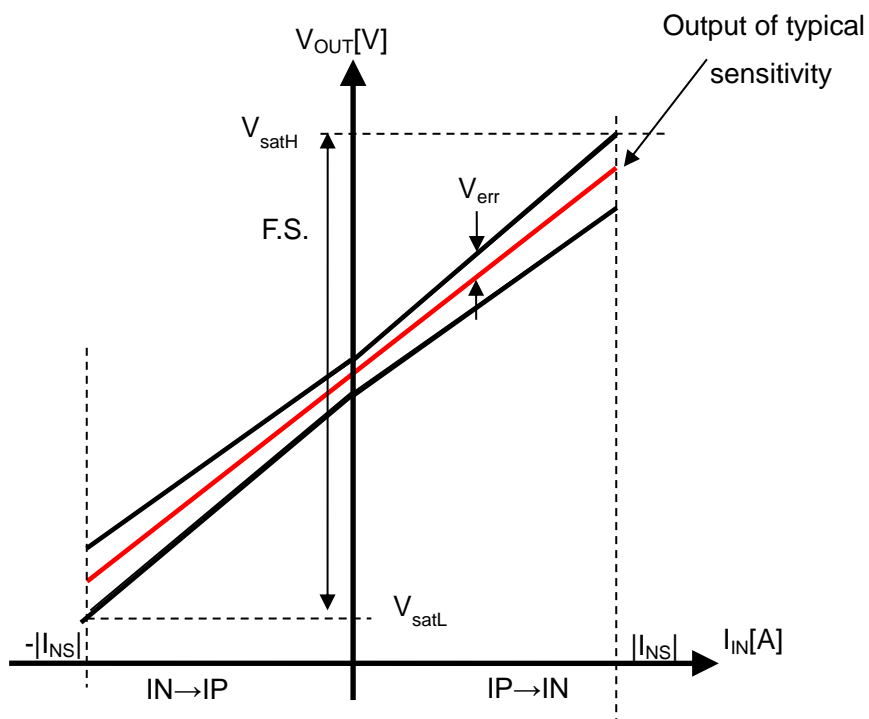

Figure 4. Total Accuracy of CZ-3AG6
10.2. Total Accuracy E_{total} [%F.S.] is defined as below (See Figure 4.)